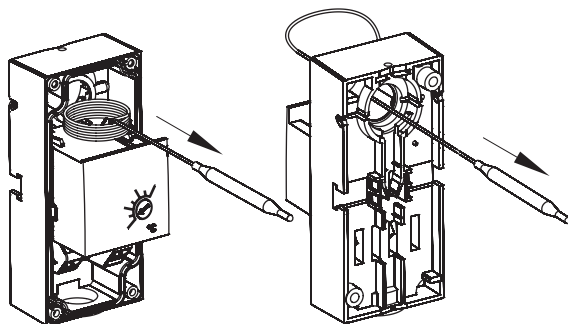

Fig. 5-5: Uncoiling the capillary tube
4. Uncoil the capillary to the required length (see Fig. 5-5).
5. Route the sensor again through the back of the housing (see Fig. 5-5).